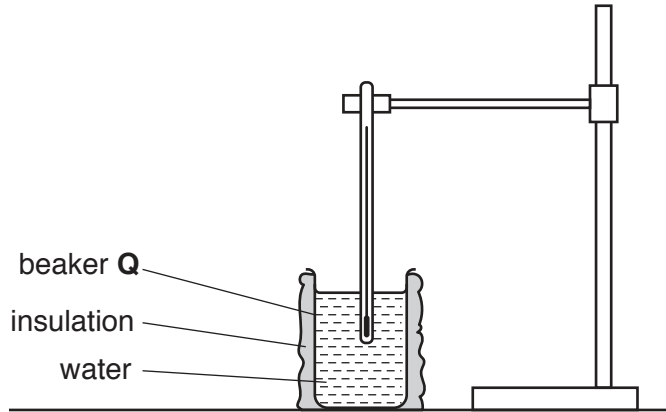

Fig. 2.2
- (c) Pour 200 cm3 of the hot water supplied into beaker Q. Place the thermometer in the hot water as shown in Fig. 2.2.